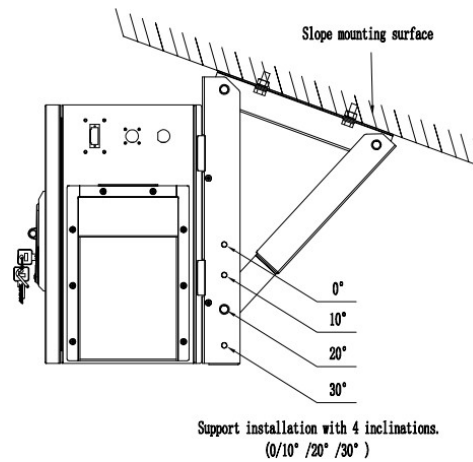

Figure 5.11 Diagram of Adjustment Angle of The Installation Plate
- Installation on angled overhead support : As shown in the figure 5.11 : Firstly, combined with the slope of the parking gantry, adjust the installation support angle so that the installed terminal is perpendicular to the ground. (Installation supports four angle adjustments: 0 ° , 10 ° , 20 ° , and 30 ° , to adapt to different gantry slopes). Then, use the combination bolts to install the Installing support in the corresponding position on the